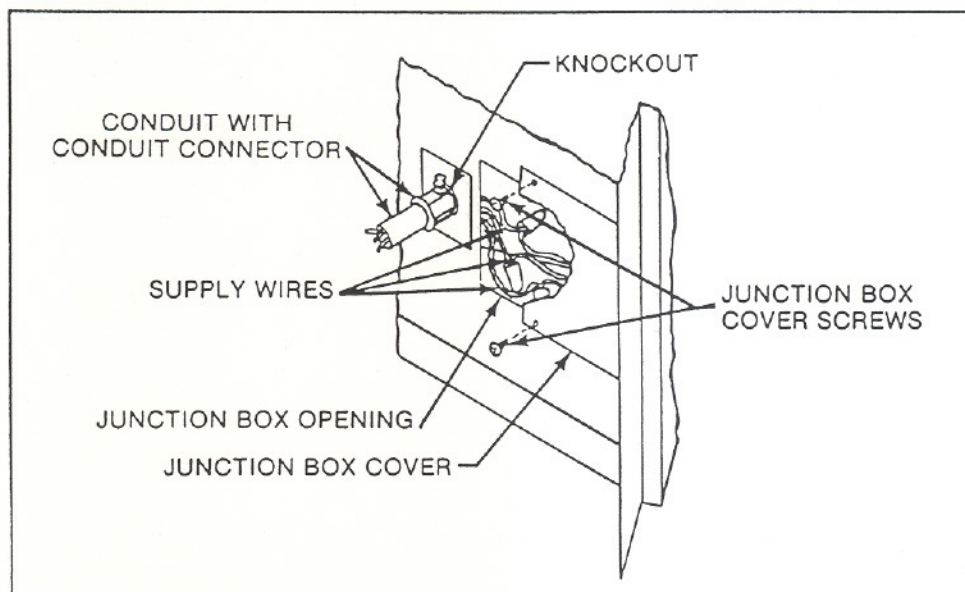

Figure 21
NOTE: Whether intending to install the Fan now, or anticipating installation in the future, it is recommended that you pre-wire the fireplace at the junction box during the installation of the fireplace. Remove the junction box cover located on the left side of the fireplace by removing the two screws used to secure it. Remove the 13/16" diameter knockout by the side of the junction box opening and insert the electrical conduit attached to a 1/2" EMT conduit connector (pressure cast set screw type) through this hole and secure the conduit to the outer shell with the conduit connector lock nut. Firmly attach the supply wires to the appropriately colored receptacle lead wires in the junction box using a 105° C class wire nut that will accept (2) 18 ga. wires. Replace the junction box cover and secure it with the screws previously removed. See Figure 21.